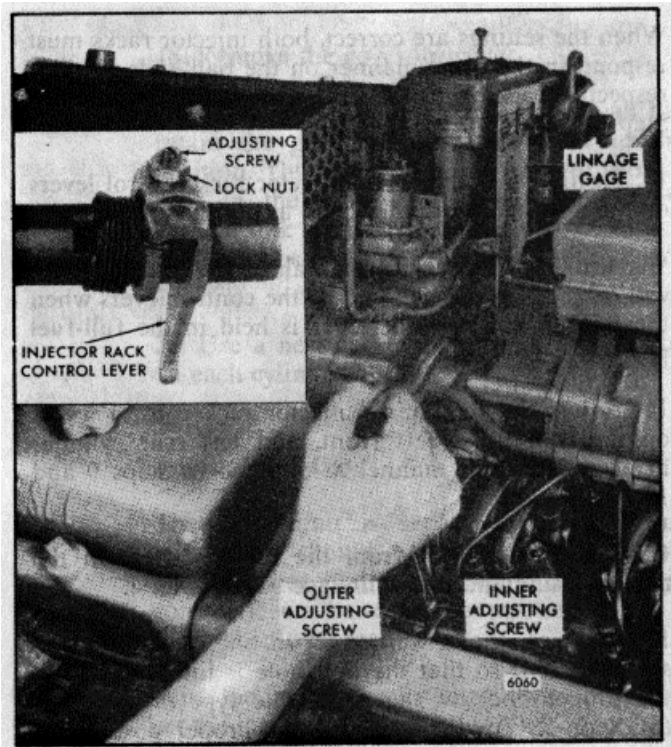

Fig. 15. - Positioning No. 4R. Injector Rack Control Lever
6. Adjust the No. 4R injector rack by tightening the adjusting screw until the injector rack clevis is observed to roll up or an increase in effort to turn the screwdriver is noted (Fig. 15). Tighten the screw approximately 1/8 of a turn more and lock securely with the adjusting screw locknut. This will place the No. 4R injector rack in the full-fuel position.